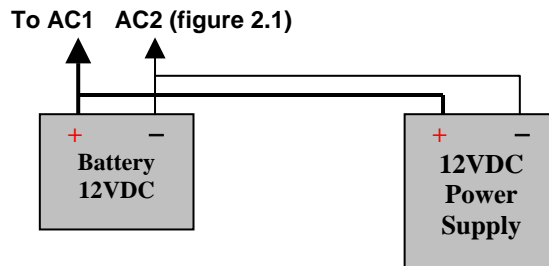

Figure 2.2 DC Power and Battery Back-up
You may use **12VDC 40VA** power supply to power the AeGIS 7000 Series, not supplied by Pach and Company (see figure 2.2).
- Connect the power supply's (+) and (-) terminals to AC1 and AC2 (polarity is not important). Connect the 12 VDC rechargeable battery parallel with the DC power supply as shown in figure 2.2 (polarity is important). See also section 2.4.2.
Optional emergency battery can be installed on AeGIS 7000 if DC power supply is used. See the wiring diagram on figure 2.2.